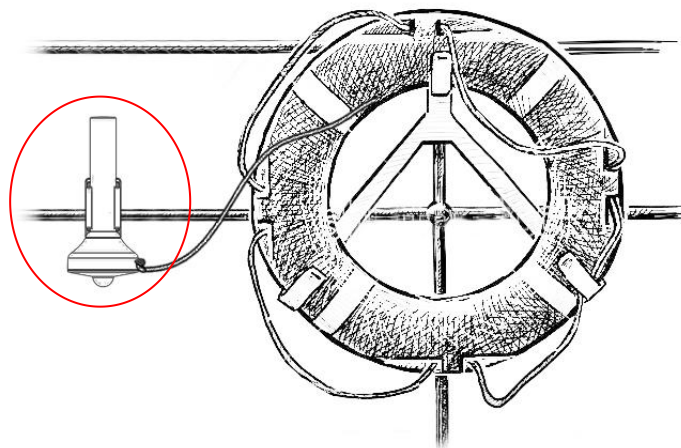

Figure 5
- 3.2.4 Once the light is properly installed, bind the rope to the lifebuoy and fasten it securely, as shown in Figure 5. When the lifebuoy with the light is thrown into the water, the light should automatically detach from the clip together and begin flashing as soon as it is in the upright position in water.